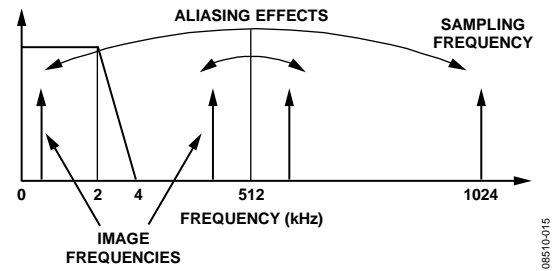

Figure 32. Aliasing Effects
Figure 30 also shows an analog low-pass filter (RC) on the input to the ADC. This filter is placed outside the ADE7854/ADE7858/ADE7868/ADE7878, and its role is to prevent aliasing. Aliasing is an artifact of all sampled systems as shown in Figure 32. Aliasing means that frequency components in the input signal to the ADC, which are higher than half the sampling rate of the ADC, appear in the sampled signal at a frequency below half the sampling rate. Frequency components above half the sampling frequency (also known as the Nyquist frequency, that is, 512 kHz) are imaged or folded back down below 512 kHz. This happens with all ADCs regardless of the architecture. In the example shown, only frequencies near the sampling frequency, that is, 1.024 MHz, move into the band of interest for metering, that is, 40 Hz to 2 kHz. To attenuate the high frequency (near 1.024 MHz) noise